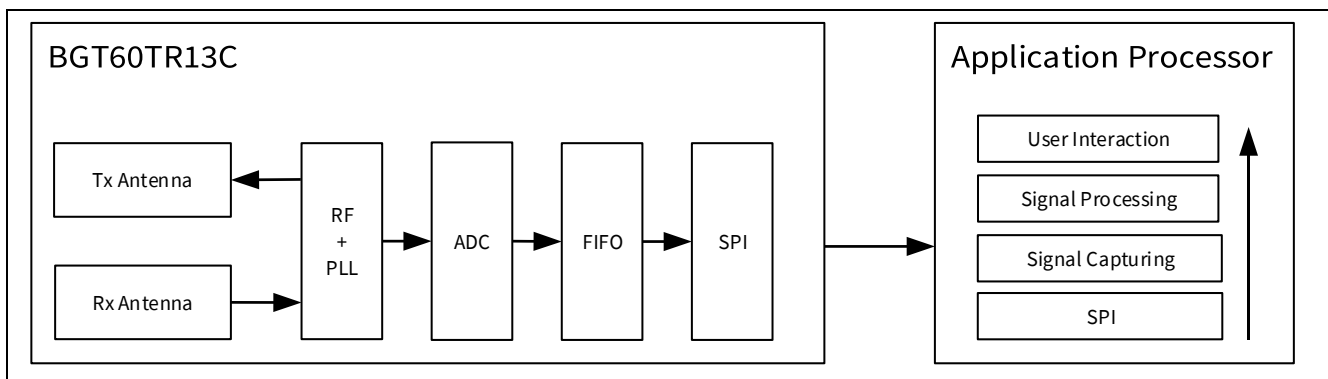

Figure 1 Data flow in the complete radar sensor system
The core functionality of BGT60TR13C is to transmit frequency modulated continuous wave (FMCW) signal via the transmitter channel (TX) and receive the echo signals from the target object on the three receiving channels (RX). Each receiver path includes a baseband filtering, a VGA, as well as an ADC. The digitized output is stored in a FIFO. The data are transferred to an external host, microcontroller unit (MCU) or application processor (AP), to run radar signal processing. A typical implementation of a sensor system consists of two main blocks only (see Figure 1):